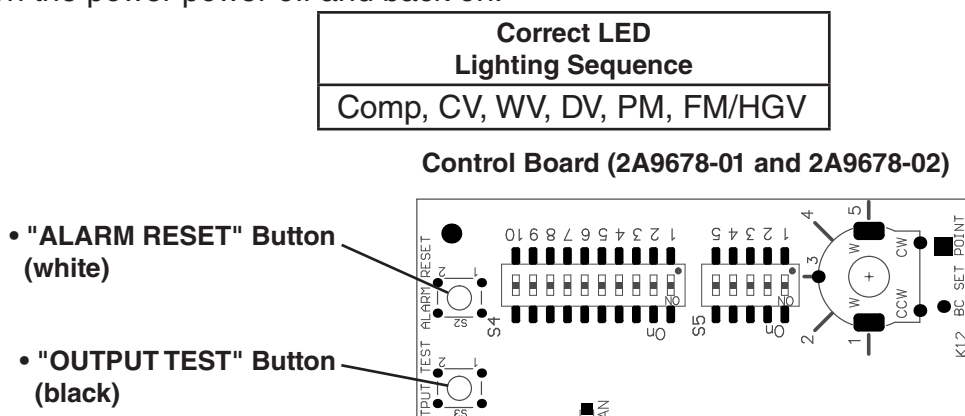

Fig. 1
- 3) The "OUTPUT TEST" button provides a relay sequence test. Make sure the control switch is in the "ON" position and the mode switch is in the "ICE" position, then press the "OUTPUT TEST" button. For the correct lighting sequence, see the table below. Note that the order of the LEDs from the outer edge of the control board is Comp, CV, WV, DV, PM, FM/HGV. Components cycle during the test. See Fig. 1. Following the output test cycle, the icemaker begins normal icemaking operation at the 1-min. fill cycle. If the LEDs do not light as described above, replace CB.
See Fig. 1. Pressing the "OUTPUT TEST" button while CB is in alarm initiates an output test and locks out the "ALARM RESET" button. To reset the "ALARM RESET" button, turn the power power off and back on.